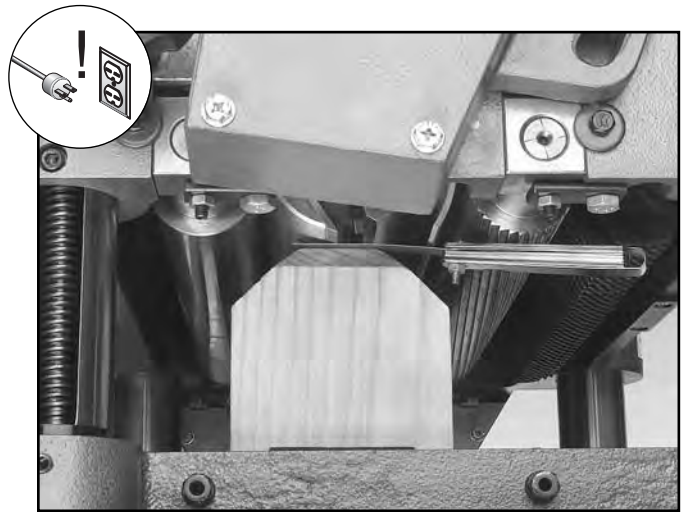

Figure 31. Using the feeler gauge to measure the gap.
- If the knife does not contact the gauge block, use a feeler gauge to determine the difference between one side and the other. See **Figure 31**.